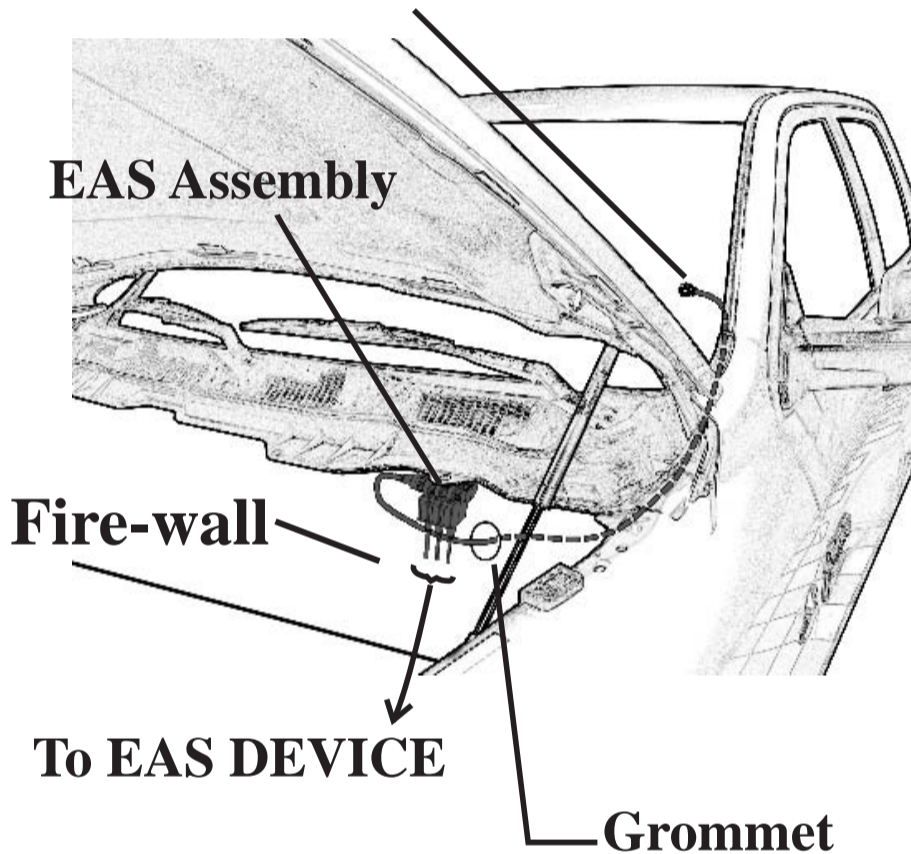

Figure 39 - ENGINE COMPARTMENT VIEW
- 2) Feed the end of the Main Cable through the rubber grommet. (Figures 39 & 40)